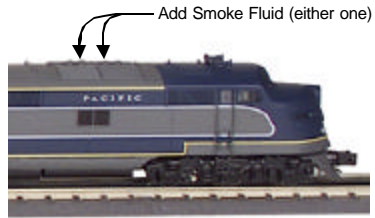

Figure 4. Add Smoke through the Front Smokestack
2. Prime the operating smoke unit with smoke fluid before operating. Add 15-20 drops of smoke fluid through the front smokestack (see Fig. 4 on pg. 11), then gently blow into the stack to eliminate any air bubbles in the fluid.
When preparing to run this engine, add 15-20 drops of smoke fluid through the front smokestack (see Fig. 4). We recommend M.T.H. ProtoSmoke, Seuthe, LGB, or LVTS fluids. Do not overfill the unit or the fluid may leak out and coat the interior engine components.